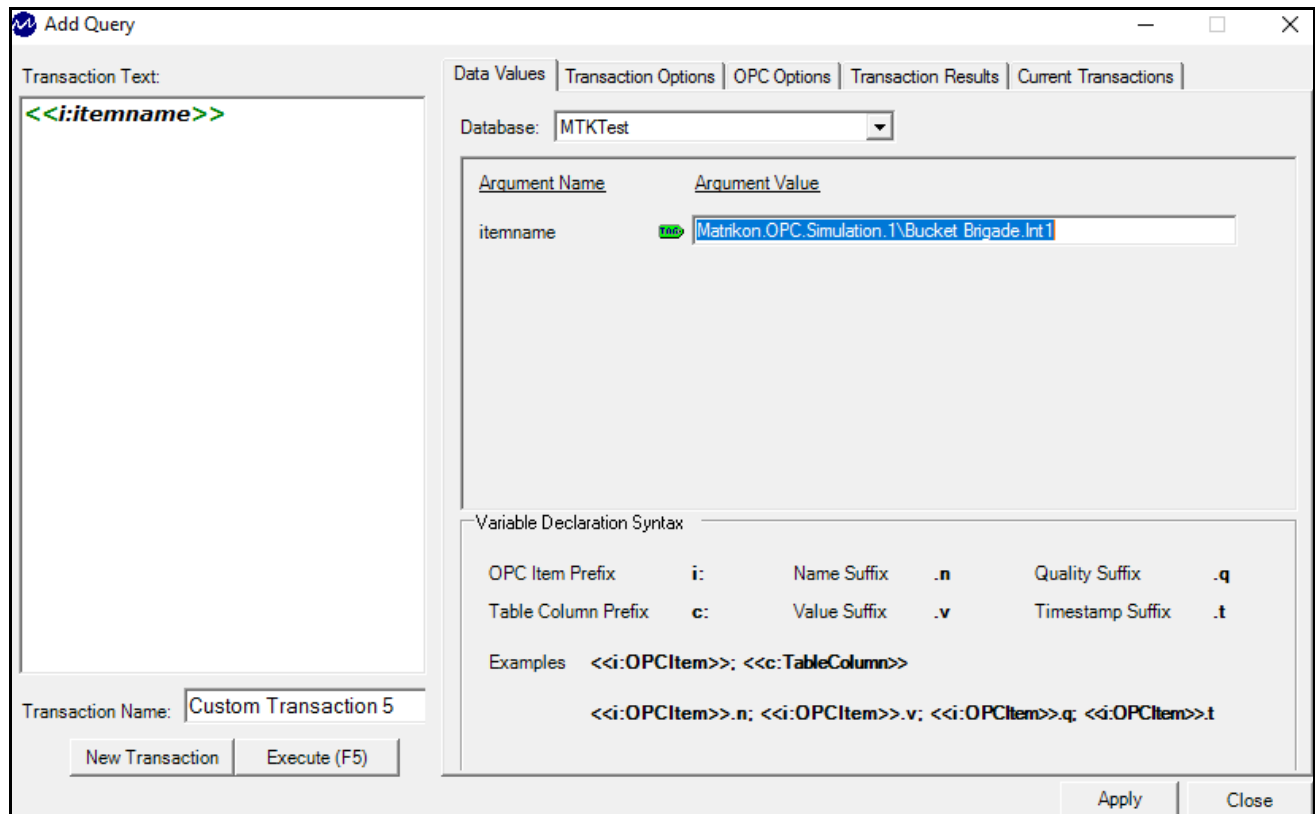

Figure 35 - Successfully Assigned OPC Item
6. Double-click the OPC item, set the **Argument Value**. The **Tag** button will turn green, and the field adjacent to the button is populated with the item name information as shown in Figure 35 - Successfully Assigned OPC Item.
When a variable is properly declared in the Transaction Text pane, the start and end delimiters are highlighted. This can be seen in Figure 35 where the << and >> delimiters are both displayed in green.